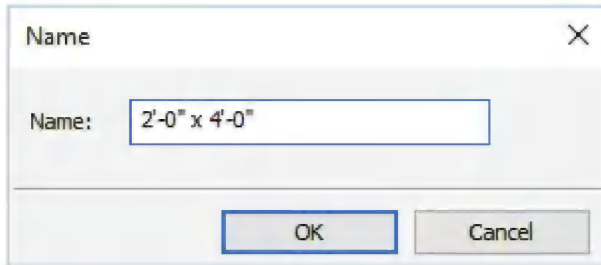

FIGURE 15-5.2 Naming the family type
4. Enter **2'-0" x 4'-0"** for the name of the first *Type* (Figure 15-5.2).